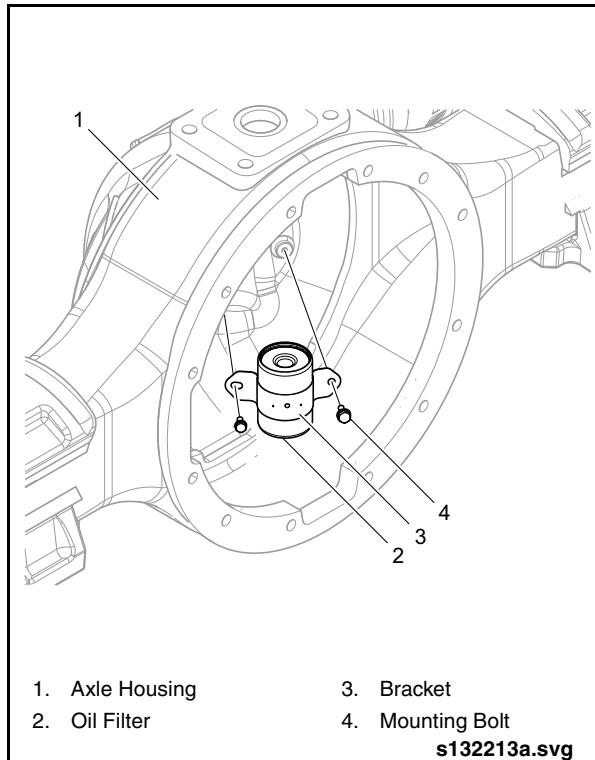

Fig. 2-43: Axle Housing Oil Filter
1. Prior to installing the differential carrier assembly into the axle housing, remove the oil filter, located in the upper area of the axle housing. See "Fig. 2-43: Axle Housing Oil Filter" on page 42.